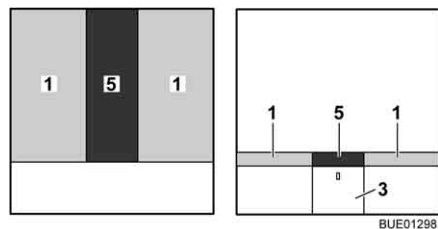

Fig. 117 After conversion
- Place the additional cushion (Fig. 117,5) between the mattresses (Fig. 117,1).